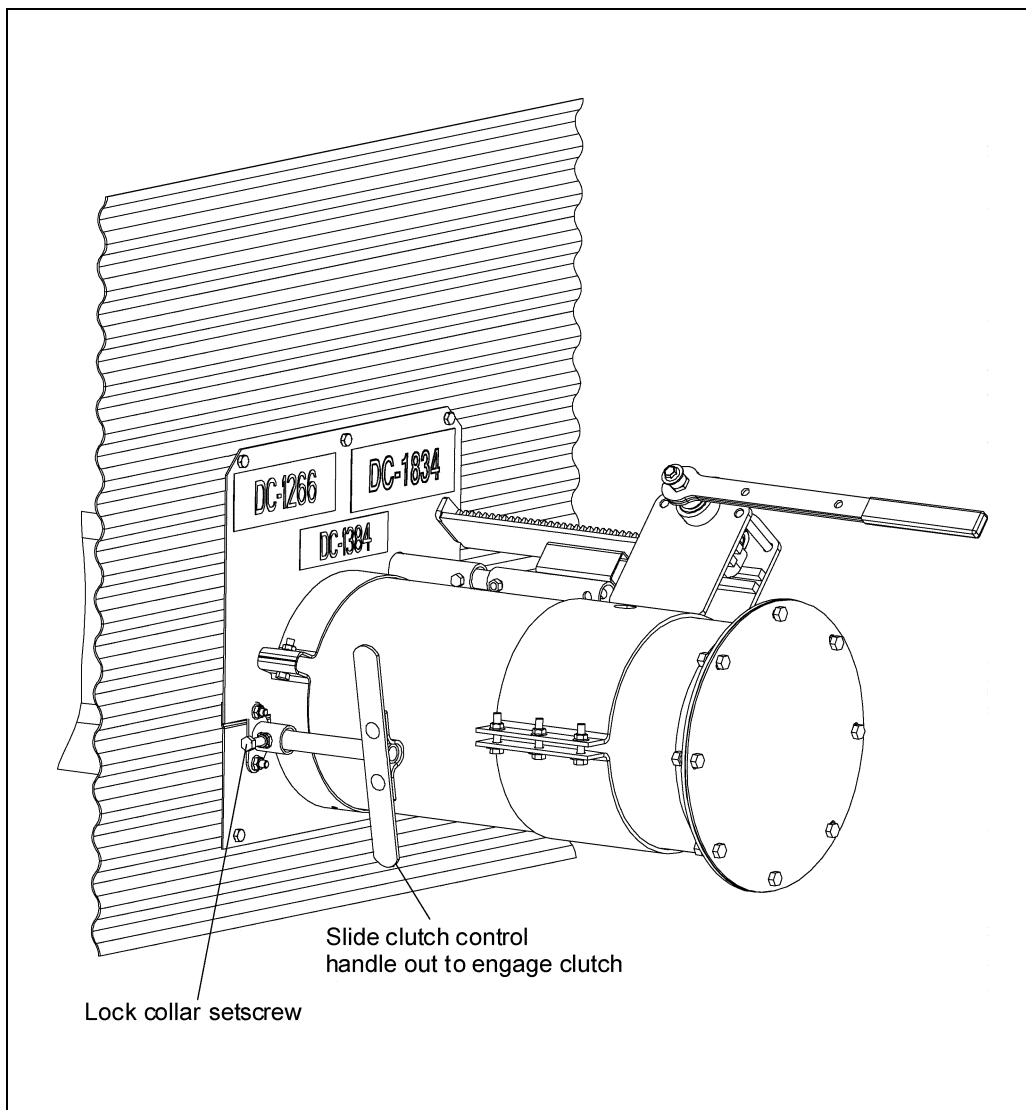

Figure 5H
2. Loosen the lock collar set screw and pull on clutch control handle to engage clutch. (See Figure 5H.)